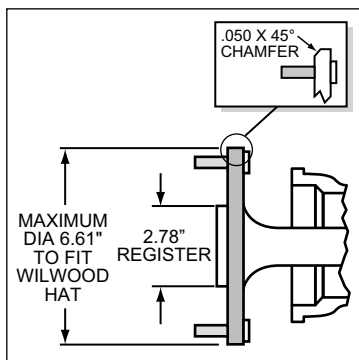

Figure 3. Axle Flange Maximum Dimension
- Axle center register diameter is 2.78", Figure 3. This kit uses Wilwood's removable center register adapters. Rotors can either be centered on the axle register, i.e. *register-centric* or centered on the wheel studs, i.e. *stud-centric*. Due to variations in wheel stud final diameters, *register-centric* centering can be a more accurate method of centering the rotor to the axle. Wilwood offers various diameter adapters for purchase in addition to the ones supplied in this kit, see Table 1.
•Maximum axle flange diameter must be no larger than 6.61" w/.050" x 45° chamfer, Figure 3.